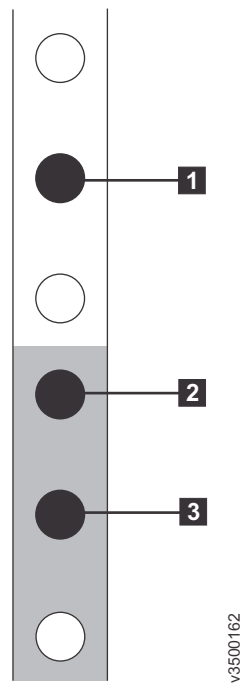

Figure 8. Hole locations in the front of the rack
4. Working at the front of the rack cabinet, identify the two standard rack units (2U) of space in the rack into which you want to install the support rails. Figure 8 shows two rack units with the front mounting holes identified.